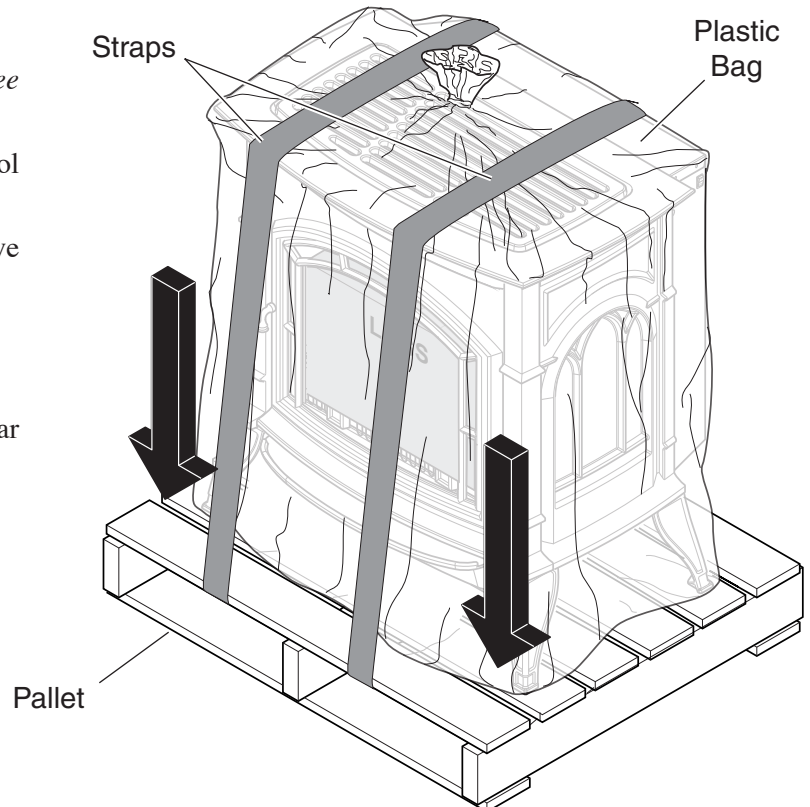

Figure 7 - Removing Straps and Plastic from Unit
1. Remove two (2) straps. *See Figure 7.*